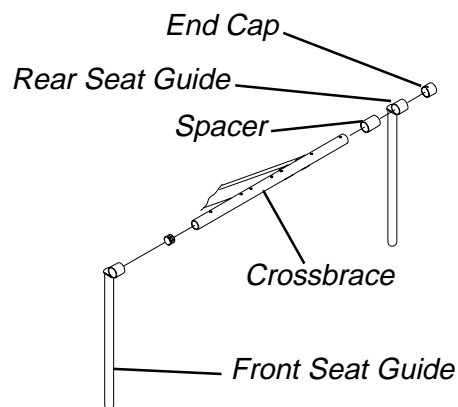

FIGURE 7 - TRACER IV
**TRACER IV (FIGURE 7).**
- b. Remove the end cap, two (2) seat guides and spacer from the crossbrace.